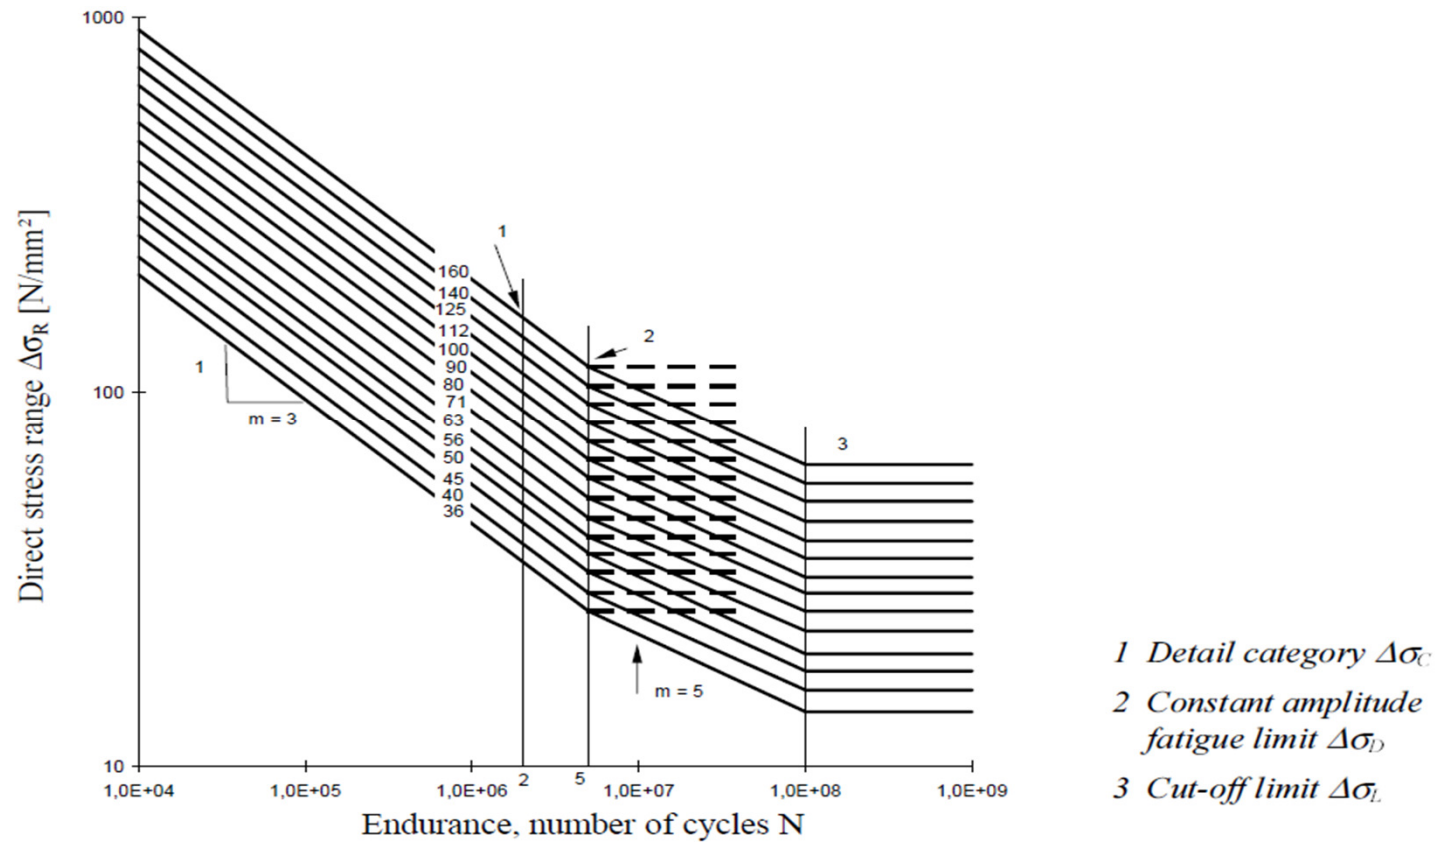
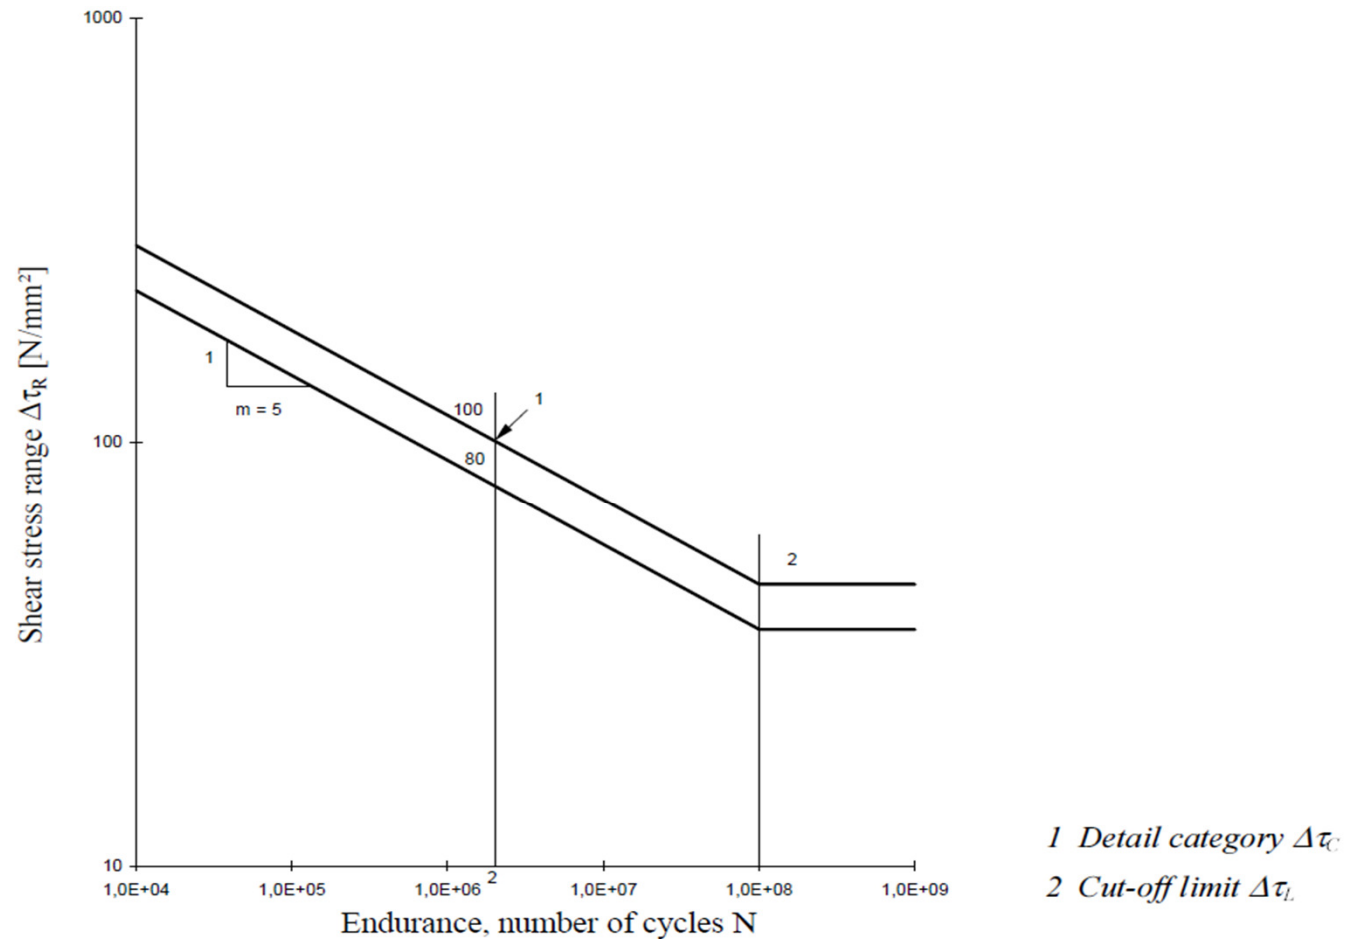

Figure 7.1: Fatigue strength curves for direct stress ranges
Figure 7.2: Fatigue strength curves for shear stress ranges
- (1) The fatigue strength for nominal stresses is represented by a series of $(\log \Delta\sigma_R) - (\log N)$ curves and $(\log \Delta\tau_R) - (\log N)$ curves (S-N-curves), which correspond to typical detail categories. Each detail category is designated by a number which represents, in N/mm^2 , the reference value $\Delta\sigma_C$ and $\Delta\tau_C$ for the fatigue strength at 2 million cycles.
- (2) For constant amplitude nominal stresses as shown in Figure 7.1 and Figure 7.2 fatigue strengths can be obtained as follows:
$$\Delta\sigma_R^m N_R = \Delta\sigma_C^m 2 \times 10^6 \quad \text{with } m = 3 \quad \text{for } N \leq 5 \times 10^6, \text{ see Figure 7.1}$$
$$\Delta\tau_R^m N_R = \Delta\tau_C^m 2 \times 10^6 \quad \text{with } m = 5 \quad \text{for } N \leq 10^8, \text{ see Figure 7.2}$$
$$\Delta\sigma_D = \left(\frac{2}{5}\right)^{1/3} \Delta\sigma_C = 0,737 \Delta\sigma_C \quad \text{is the constant amplitude fatigue limit, see Figure 7.1, and}$$
$$\Delta\tau_L = \left(\frac{2}{100}\right)^{1/5} \Delta\tau_C = 0,457 \Delta\tau_C \quad \text{is the cut off limit, see Figure 7.2.}$$
$$\Delta\sigma_L = \left(\frac{5}{100} \right)^{1/5} \Delta\sigma_D = 0,549 \Delta\sigma_D \quad \text{is the cut off limit, see Figure 7.1.}$$